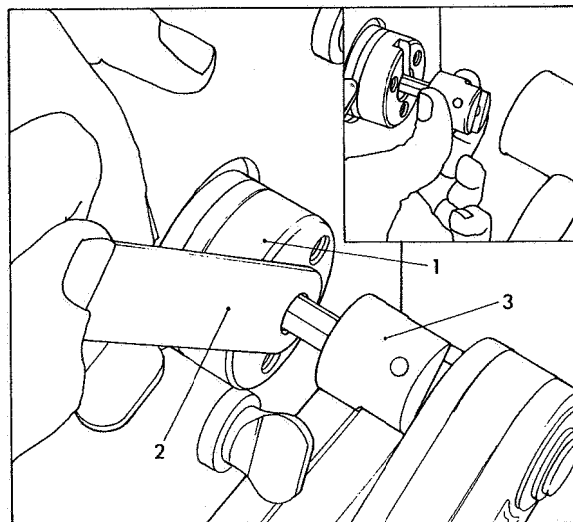

Fig 78 Loosening drive shaft screw
Reverse fixture endways in vice as shown in Fig 78. Hold drive hub (1) with Tool Part No 7144-773 (2) and using Tool Part No 7144-261 (3), loosen the drive shaft screw a couple of turns. Gently tap the end of the tool holding the screw to ease drive shaft through seals as shown in inset, then unscrew and remove screw. Remove drive shaft screw spring washer. The support washer can be left inside the drive hub.